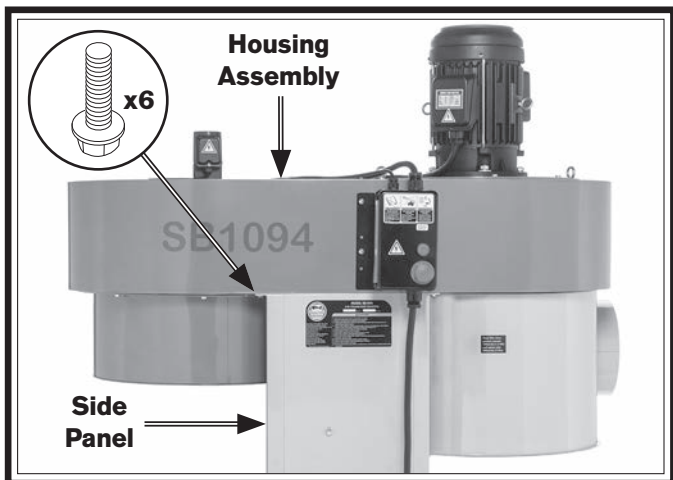

Figure 15. Housing assembly attached to side panels.
6. Position housing assembly over side panels and secure with (6) 5/16"-18 x 1/2" flange bolts (see **Figure 15**).